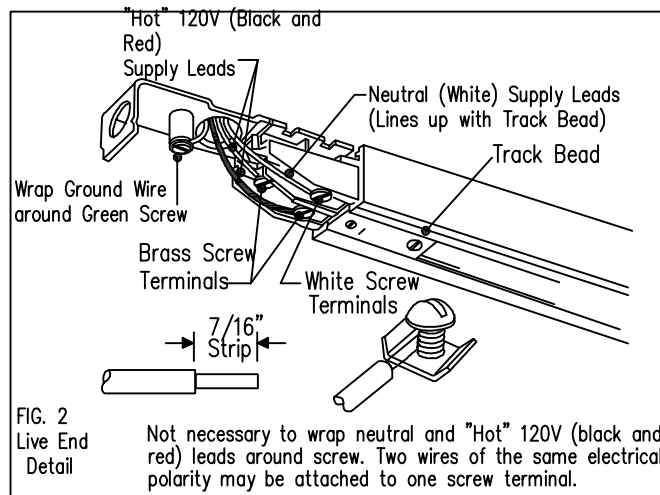

FIG. 2
The Bead (Fig. 2) identifies the neutral conductor in the track. When installing track in patterns or straight runs, the Beads should be in line for proper installation (Fig. 9). Install Power Feed in Kit before installing the track.
7. Strip and form supply leads to fit in Live End. Fasten leads to Screw Terminals; Ground Lead to Green Ground Screw, Neutral (white) Lead to white terminal screw and "Hot" 120V (black or red) Leads to remaining terminals (see Fig. 2).